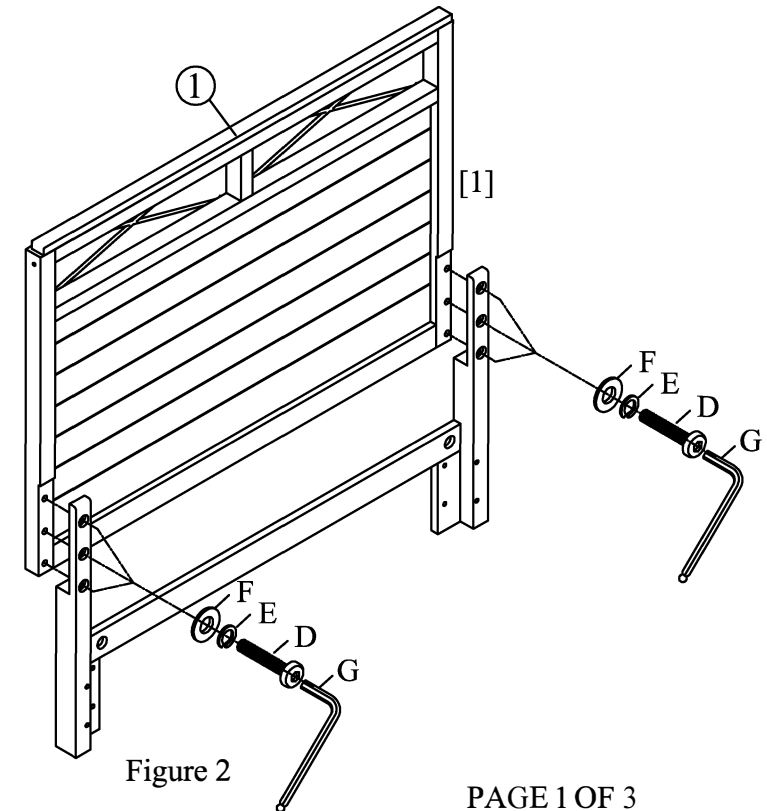

Figure 2
- STEP 3. Attach the headboard panel (1) to headboard leg (2), (3) with lock washer (E), flat washer (F) and bolt (D). Five pieces per leg. Tighten the bolts using allen key (G). See Figure 2
**STEP 3.** Assemble the leg supports to the bed slats. See Figure 2.